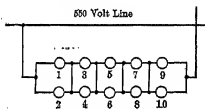

FIG. 78. A possible arrangement of lamps in a trolley car.
**Prob. 40-3.** Suppose lamps 1, 3, 5, 7, and 9, Fig. 78, are the lamps of Prob. 51-2 in the order listed respectively, and that each of the lamps 2, 4, 6, 8, and 10 has a hot resistance of 484 ohms.
Fig. 78 burns out, find the currents and voltages associated with each of the remaining lamps.
**Prob. 42-3.** If lamps 4, 6, and 8, Fig. 78, burn out, find the currents and voltages associated with each of the remaining lamps.